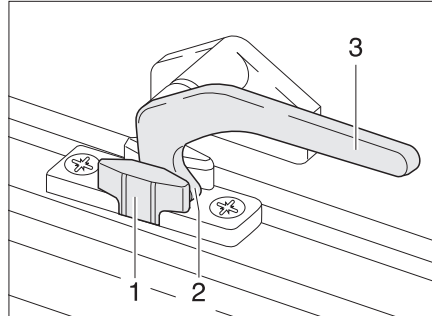

Fig. 37 Catch lever in the "continuous ventilation" position
- "Continuous ventilation" (Fig. 37)
- Turn the catch lever (Fig. 37,3) a quarter turn towards the centre of the window.
- Return the catch lever to its initial position. The locking catch (Fig. 37,2) has to be moved into the recess of window catch (Fig. 37,1).